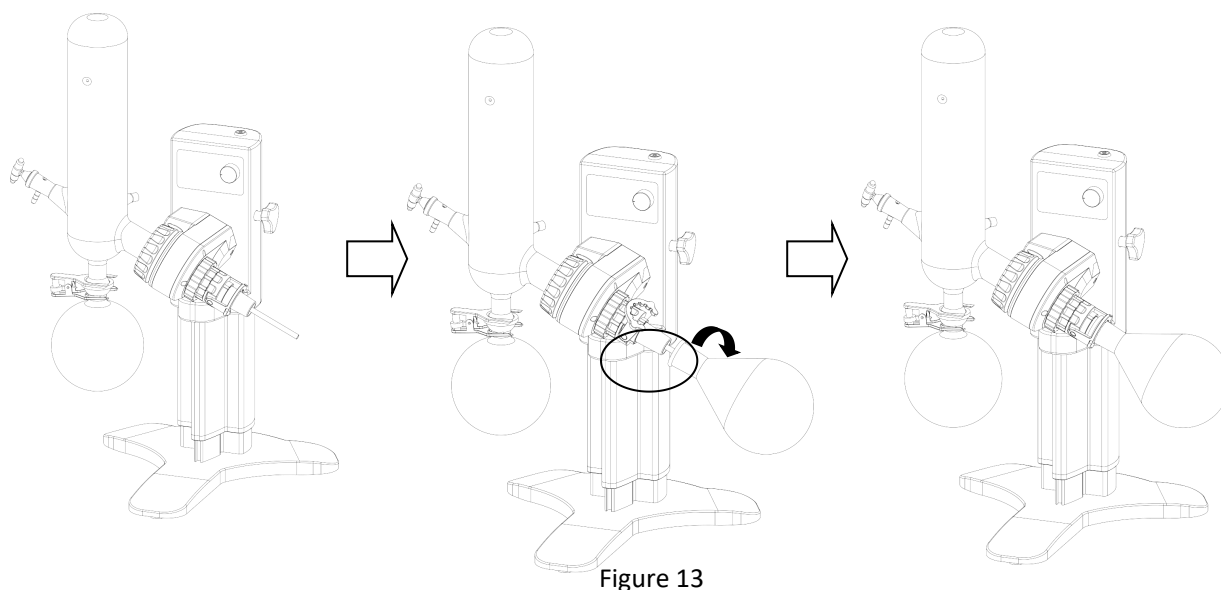

Figure 13
(5) Insert the PTFE tube (Figure 7: 8) into the lower port of the feeding valve (Figure 7: 7), and then insert it from the side interface of the condenser, adjust the angle of the feeding valve to keep it sealed. Use a stainless steel clip (Figure 7: 9) to fix the collection bottle (Figure 7: 10) to the lower interface of the condenser (Figure 7: 6); use a bottle ejection clip (Figure 7: 16) to buckle down to hold the sample bottle (Figure 7: 14) Fix it on the lower interface of the glass rotating shaft (Figure 7: 15), hold the eject ring clockwise to lock the bottle nut (Figure 7: 17). (See Figure 13)